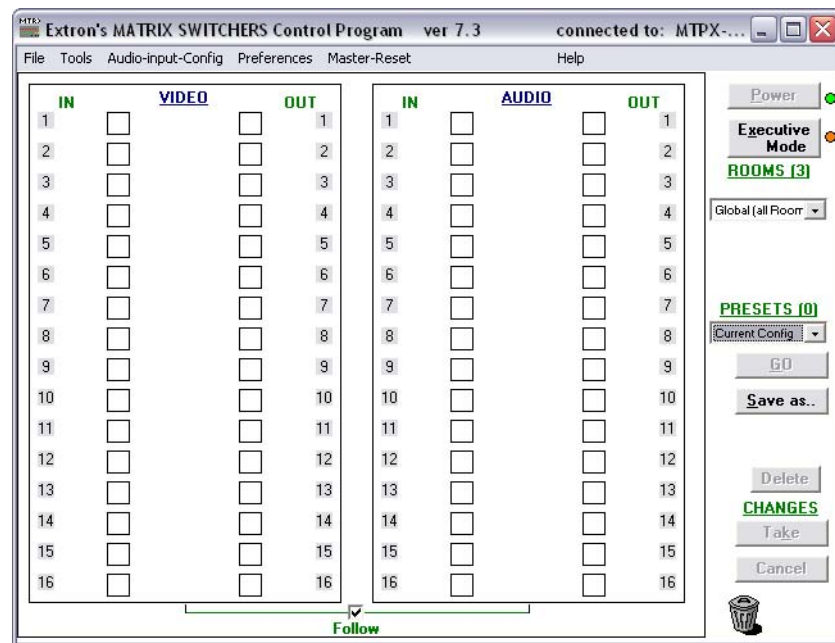
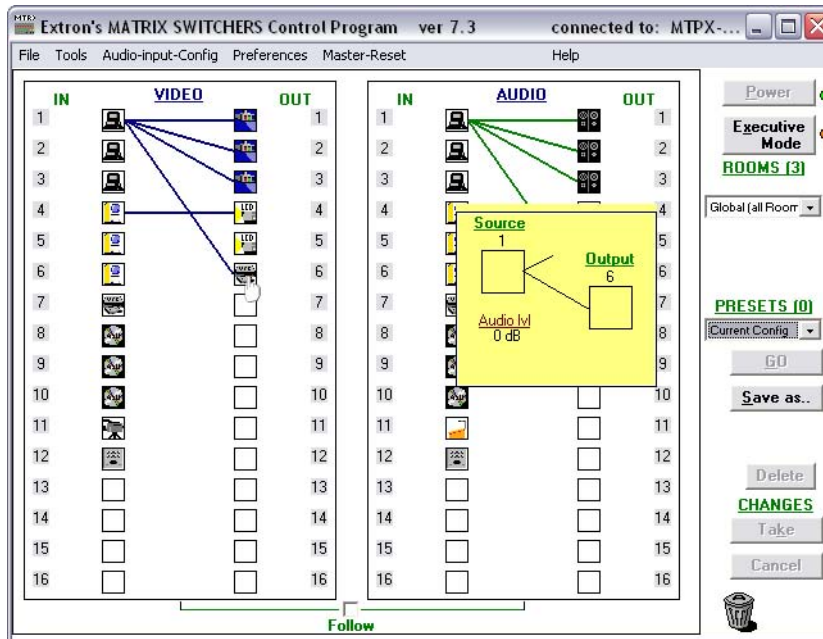

Figure 5-5 — Extron Matrix Switchers Control Program window (blank)
Figure 5-6 — Sample program window (complete)
4. The Extron Matrix Switchers Control Program window (figure 5-5 and figure 5-6) appears. The window displays the current configuration of the attached matrix.
- To set up audio in *Follow* mode (audio and video have the same tie configuration), select the **Follow** box at the bottom of the window (figure 5-5). To set up audio in breakaway mode (audio and video have different tie configurations), deselect the **Follow** box (figure 5-6).
- For quick display of information on a specific input or output device, position the cursor over that device in the control program window. The program opens a window that details the connections to that device, the audio level, and the frequency of the video signal input from or output to that device. See the inset box in figure 5-6.